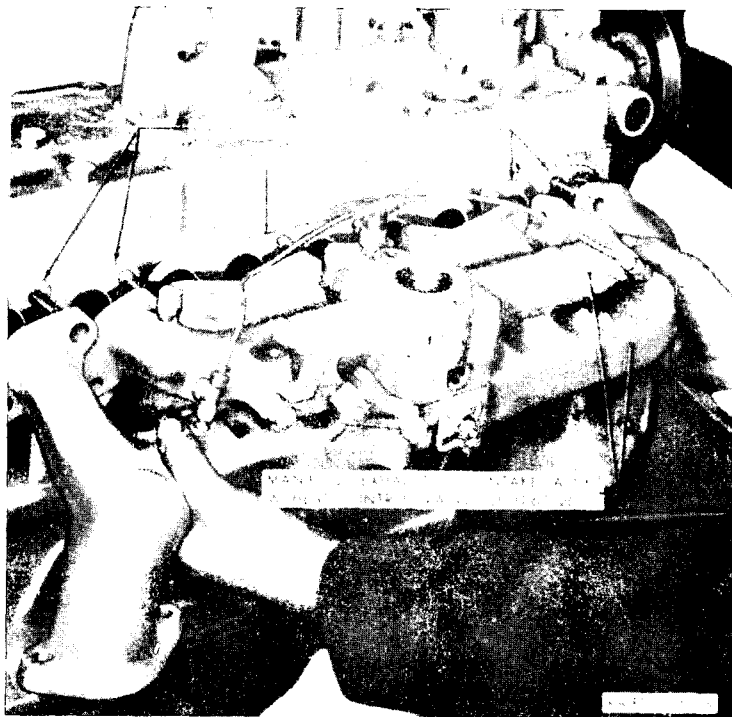

Figure 27. Removing manifold assembly.
- (1) Remove crankcase ventilator valve from intake manifold.
- (2) Remove nuts and lift intake and exhaust manifold assembly with heat control valve from engine (fig. 27).